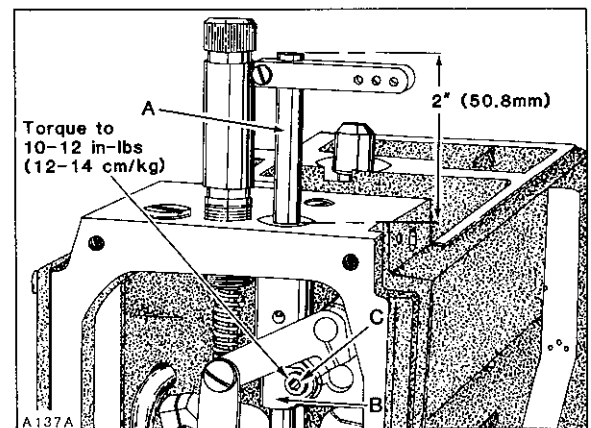
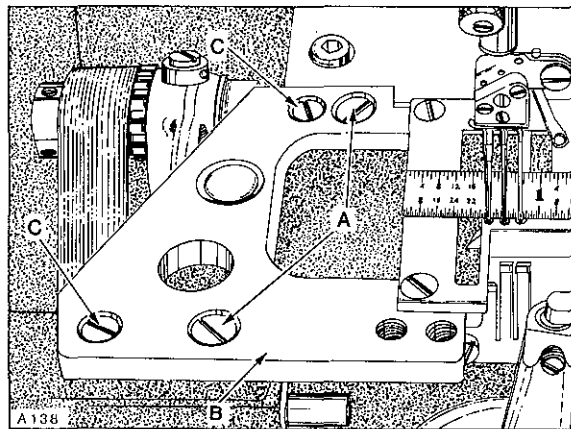

Fig. 7
Fig. 8
Insert a new set of needles. As a temporary setting, the TOP of needle bar (A, Fig. 7) should be approximately 2 inches (50.8mm) from the TOP of upper needle bar bushing when needle bar connection (B) is positioned at TOP of STROKE as shown in Figure 7. Adjustment can be made by loosening screw (C), reposition needle bar up or down as required and tighten screw (C) VERY LIGHTLY 10 - 12 in-lbs (12 - 14 cm/kg) maximum torque. Rotate handwheel to ensure that needles center in the needle holes of throat plate as shown in Figure 8. Adjustment can be made by loosening screw (C, Fig. 7) slightly, allowing needle bar to be rotated as required, while being careful to maintain the temporary height setting and tighten screw (C) AS SPECIFIED. An additional 4-way directional adjustment of the throat plate can be accomplished as follows:
IMPORTANT: Adjustment of throat plate must be coordinated between needles and feed dogs; refer to "FEED DOG SETTINGS". Loosen two screws (A, Fig. 8) in throat plate support (B). Loosen two screws (C) which secure locating ferrules, allowing the throat plate support to be repositioned slightly. Tighten screws (C) first, then screws (A).